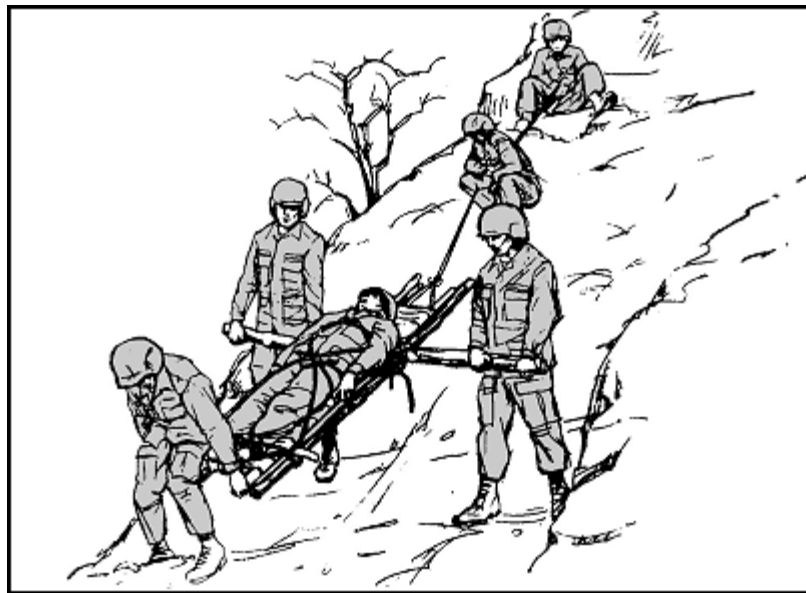

Figure 11-4. Low-angle evacuation - descending.
(6) Attendants guide the litter around obstacles while the crew continues to raise the system.
(7) As the litter nears the cliff edge, the signalman assists the attendant in moving the litter over the edge and onto the loading platform, taking care not to jar the casualty.
c. **Descending Slopes.** When descending a moderately steep slope that can be down-climbed, the litter and victim are prepared as described earlier (Figure 11-4).
(1) One man serves as the belay man and another takes his position on the rope in front of the belay man, assisting him in lowering the litter. The litter bearers take their positions and move the litter down with the speed of descent controlled by the belay man.